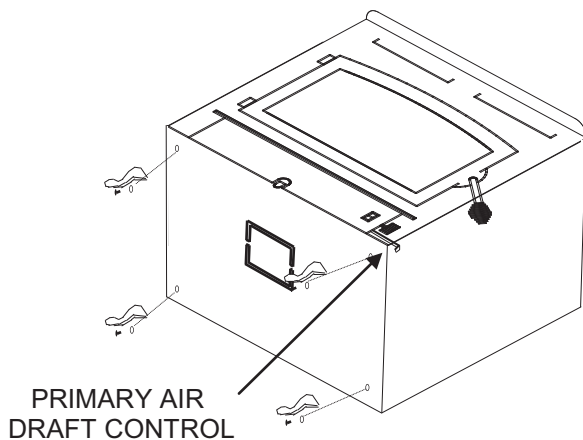

Figure 29
3. Check the primary air draft control to ensure that it slides freely.(See Figure 29).
6. Then obtain four legs, attach legs to holes in bottom of unit with bolts and washers supplied with the leg kit. (See Figure 29).